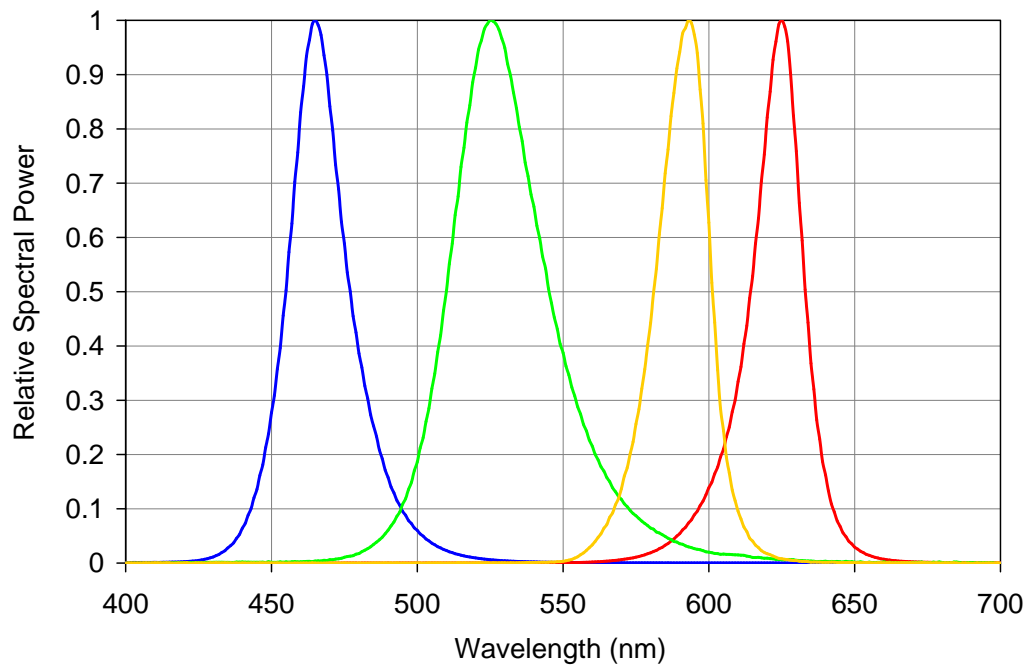

Figure 5: Typical relative spectral power vs. wavelength @  $T_c = 25^\circ\text{C}$ .
- Solder conditions per JEDEC 020D. See Reflow Soldering Profile Figure 5.